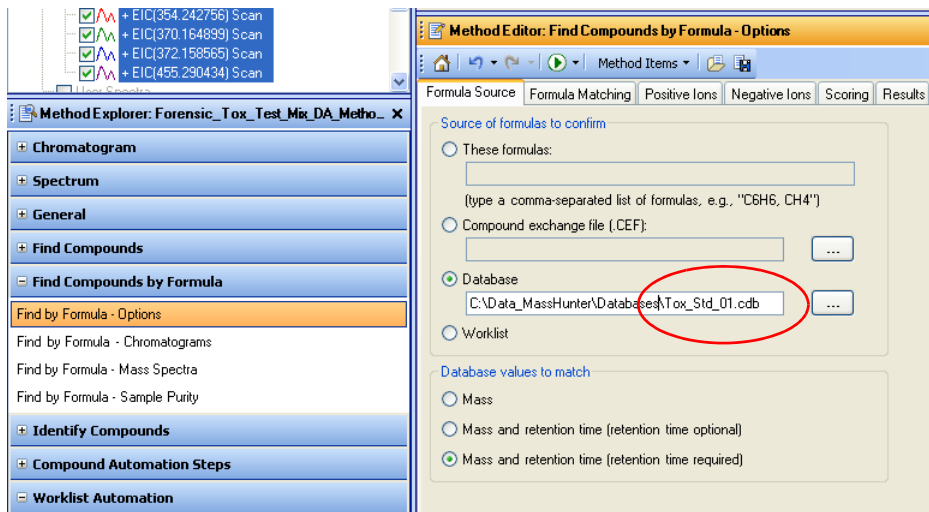

Figure 4 Find by Formula Method Editor Options (Custom Database)
- 2 From the MassHunter Forensics and Toxicology PCD disk, copy the custom database **Tox_Std_01.cdb** to **D:\MassHunter\PCDL**, or wherever MassHunter databases are stored. See Figure 4.